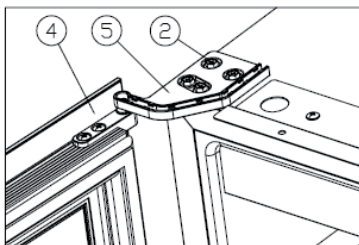

Figure 6
- 7 Turn the door (4) 180° and insert the right lower hinge (5). Screw tight with the M5 x 16 screws (2) (see figure 6).